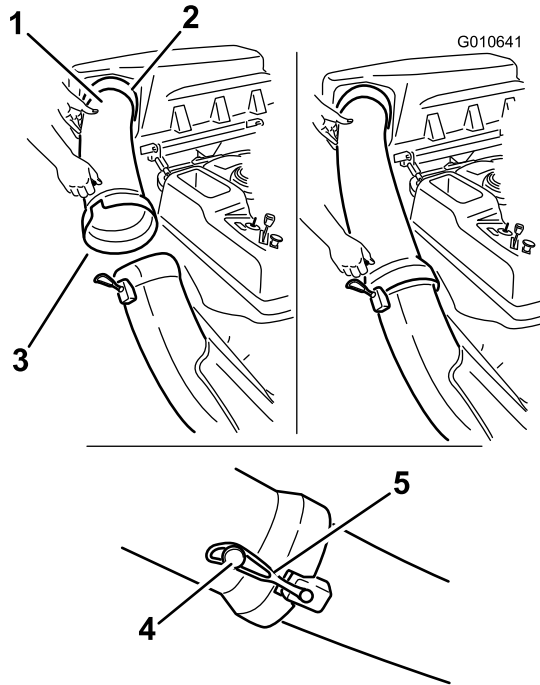

Figure 13
1. Slide the curved end of the discharge tube into the opening in the bagger top (Figure 13).
2. Slide the flared end of the discharge tube over the end of the chute. Move the rubber retaining strap on the chute over the peg on the discharge tube to secure it (Figure 13).